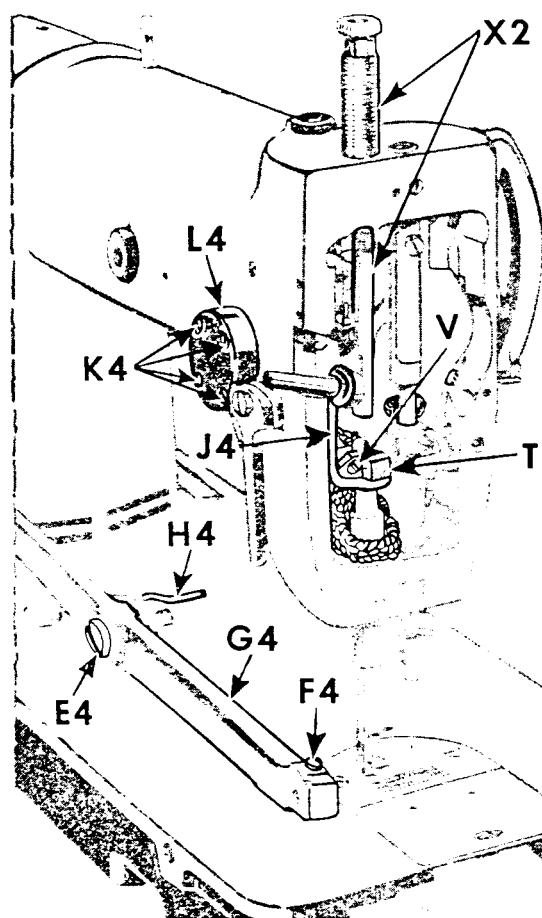

Fig. 66. Replacement of Other Parts in Head of Machine
5. Align the screw holes in the gasket P4 with the screw holes in the cover L4 and insert the four screws K4, Fig. 66, page 41 through cover and gasket to hold the gasket in place.
1. Replace presser bar lifting link **J4**, **Fig. 66** with stud.
2. Replace guide bracket **T**, **Fig. 66**. (See page 33, also.) Tighten screw **V**, **Fig. 66**.
4. Replace upper half of presser bar and presser bar thumb screw **X2**, **Fig. 66**.
6. Place presser foot lifting lever **G4**, **Fig. 66** with spring **H4** on machine arm and fasten lever to arm with hinge screw stud **E4**, **Fig. 66**.